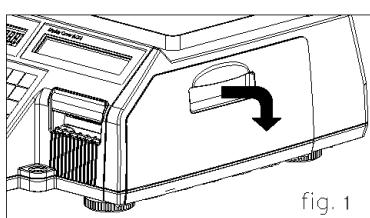

fig. 1
- 1) Press the **ON/OFF** key and make sure that the display is completely off. Open the printer's side-access panel. (See fig.1)